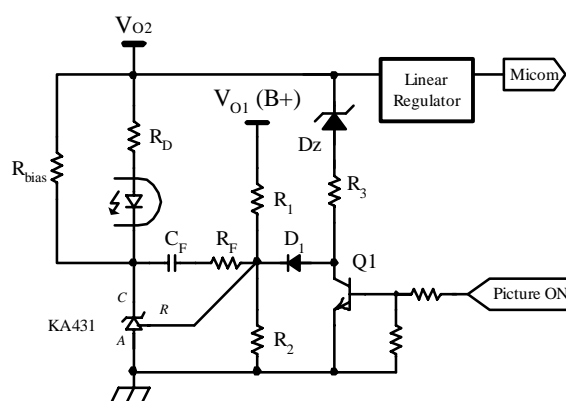

Figure 15. Typical Feedback Circuit to Drop Output Voltage in Standby Mode
6. Burst Operation : In order to minimize the power consumption in the standby mode, the FSCQ-Series employs burst operation. Once FSCQ-Series enters into the burst mode, FSCQ-Series allows all output voltages and effective switching frequency to be reduced. Figure 15 shows the typical feedback circuit for C-TV applications. In normal operation, the picture on signal is applied and the transistor Q1 is turned on, which de-couples R3, Dz and D1 from the feedback network. Therefore, only V_{O1} is regulated by the feedback circuit in normal operation and determined by R1 and R2 as